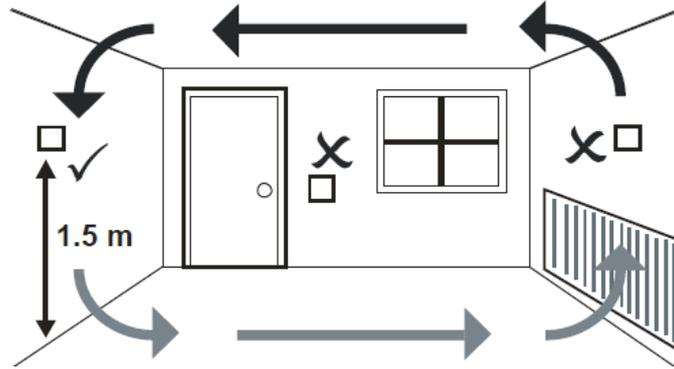

Figure 40. Secure Temperature Sensor Module Mounting Position.
**Step 2:** While pressing spring clips, swing the wall plate out and down to remove. Choose the position where the unit is to be mounted (Figure 40).